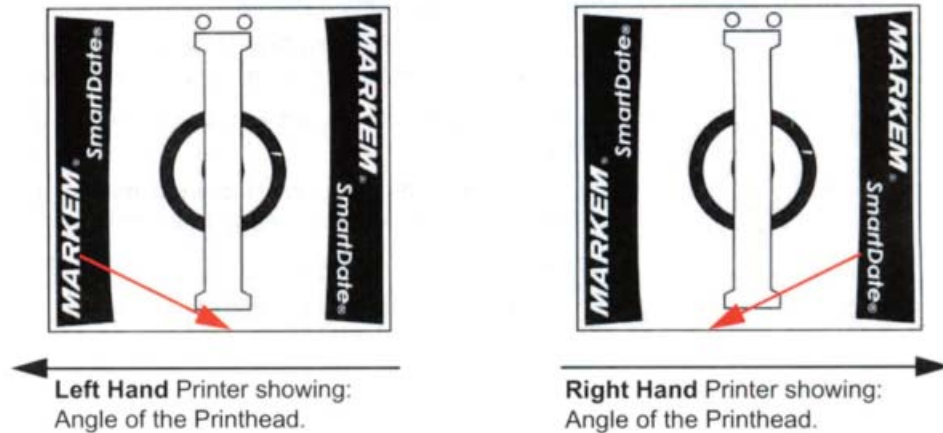

Figure 2.1
A. RIGHT OR LEFT HAND PRINTER MODELS: Figure 2.1